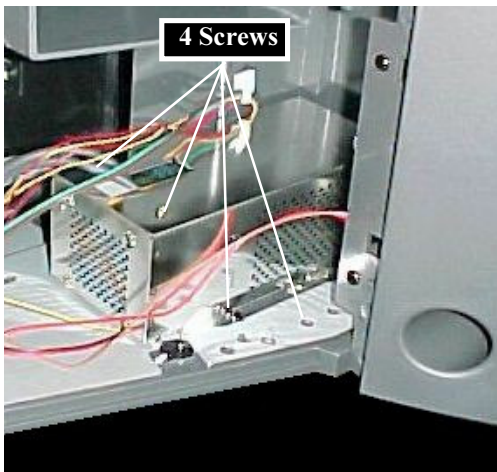

Figure 2-14: Ballast Shield Removal
- 1) Remove the 4 screws, *Figure 2-14*.